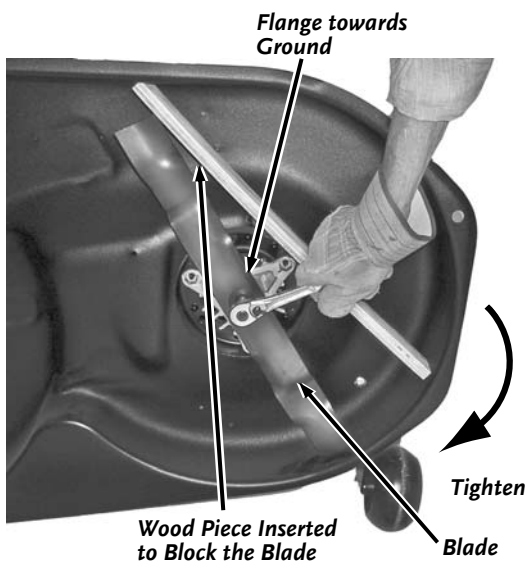

Figure 17
7. Block the blade with the wood piece and tighten securely (Torque 30-40 ft-lbs.) (Figure 17).